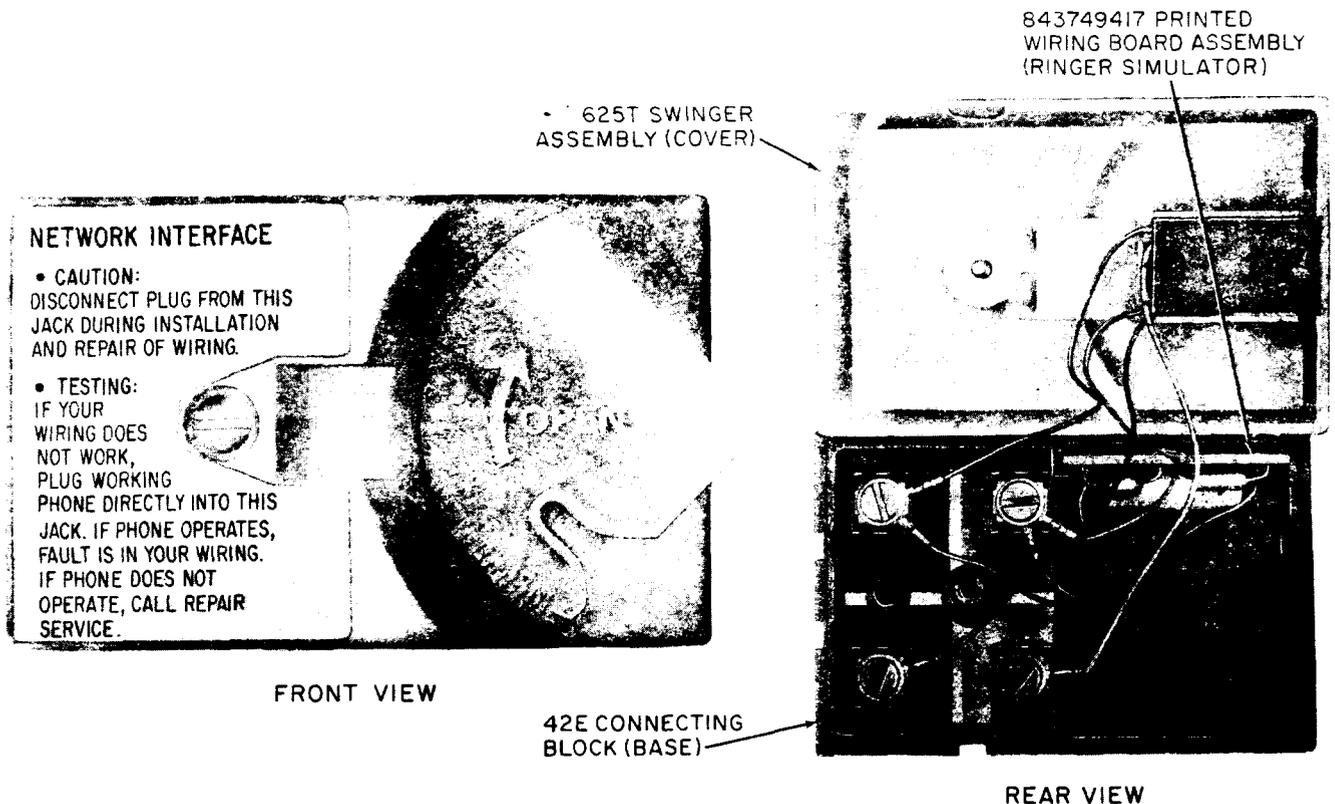

Fig. 14—625TD Connecting Block
**M. 625TD2 Connecting Block (Fig. 14)**
**3.13 625TD Connecting Block:** Mount the 42E connecting block (base) on a wall (preferred) or baseboard as near the protector or point of premises penetration as possible. Terminate station wire and termination unit (ringer simulator) and dress the 625T swinger assembly (cover) jack leads as shown in Fig. 14. Intended for use with 742A connecting block or equivalent. The network interface label that comes in the package should be mounted on the protector or a conspicuous location specified locally.